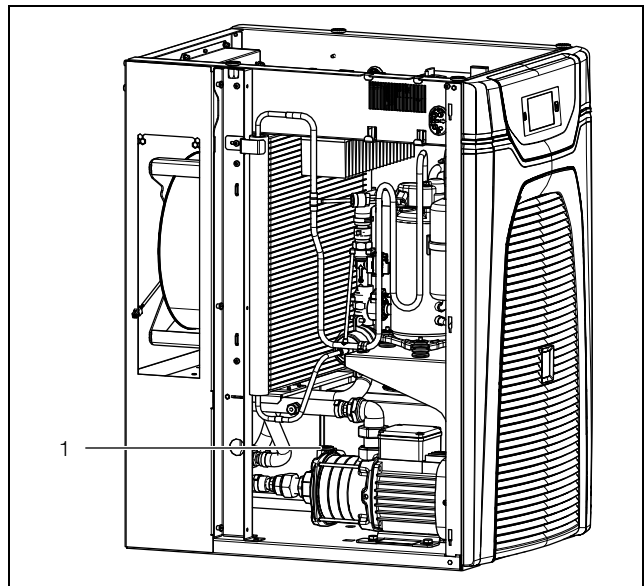

Fig. 21: Bleeding the cooling medium pump
- Bleed the cooling medium pump (with the system at a standstill) by loosening the vent screw (fig. 21, item 1). As soon as cooling medium escapes from the vent screw, bleeding of the pump is complete.